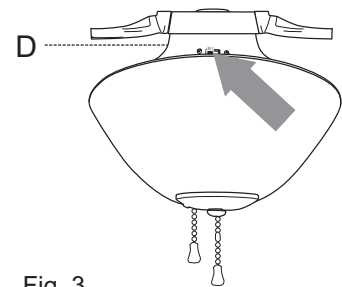

Fig. 3
3. Use the fan reverse switch, located on the switch housing (D), to optimize your fan for seasonal performance. [Fig. 3]